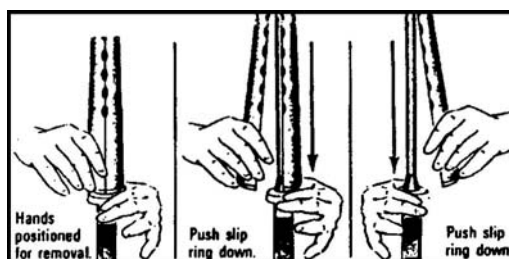

Figure 5. Removing the handguards.
- c. Remove the handguards only if you can see dirt or corrosion through the vent holes (Figure 5). Handguards on the M16A2 are interchangeable because they are identical.